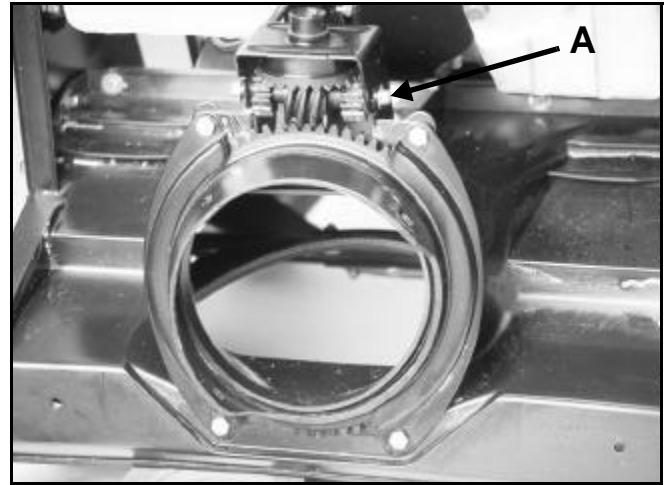

Figure 32
- The gears are held in the bracket by a shaft with a push nut on either end (Figure 32). To remove the shaft, remove one of the push nuts and pull the shaft out.